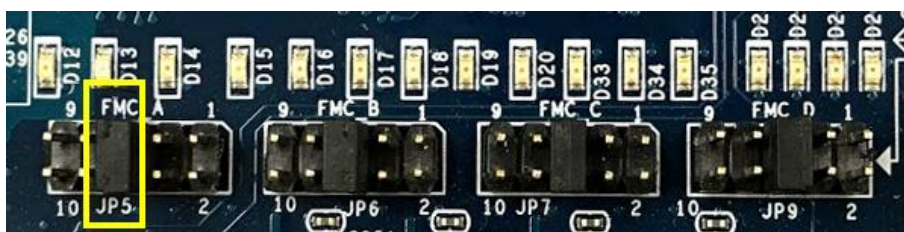

Figure 4-3 Short J5.7 and J5.8
3. Make sure the FMC_A VADJ is set to 1.8V by shorting J5.7 and J5.8 as shown in **Figure 4-3**.